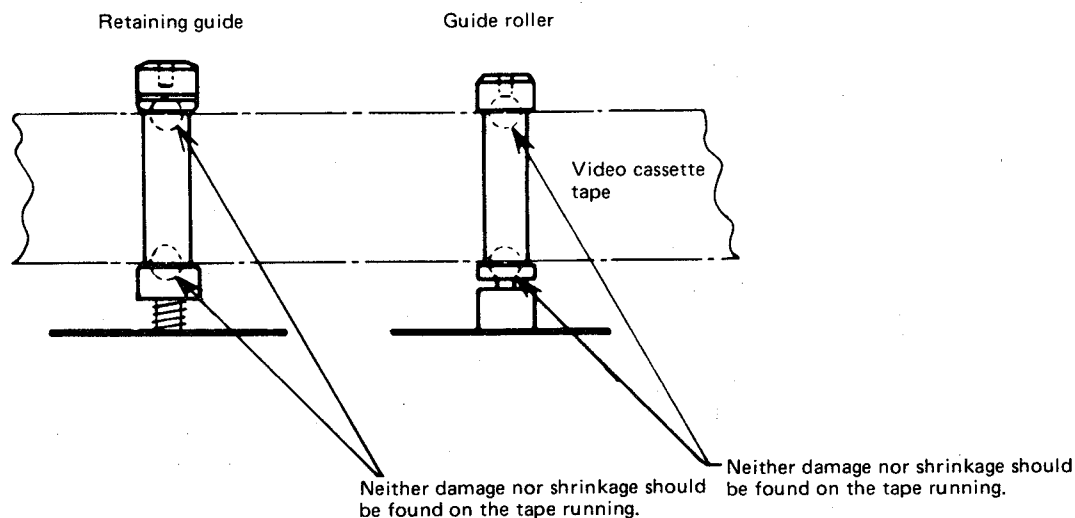

Figure 59.
1. While running a video cassette tape, check that there is produced neither damage nor shrinkage on it at the parts shown in Fig. 59.
- (1) After the adjustment, set a video tape in place as shown in Fig. 59, and see that it can travel normally.
- (2) After the adjustment, make the tape run and again adjust the guide rollers (take-up and supply sides).